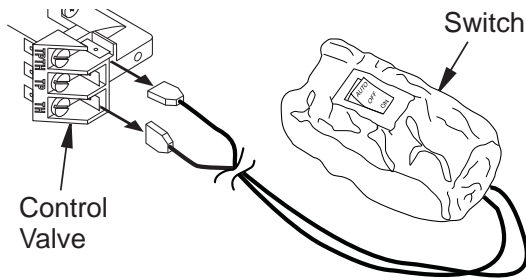

Figure 19- Disconnecting Switch from Control Valve
6. If installed, disconnect AUTO/OFF/ON switch wire from control valve at TPTH and TH locations (see **Figure 19, Page 17**).
7. Connect wires from hardware pack (with remote receiver bracket) to control valve at the TPTH and TH locations as shown in **Figure 19, Page 17**. Connect other ends of these wires to remote receiver wires.